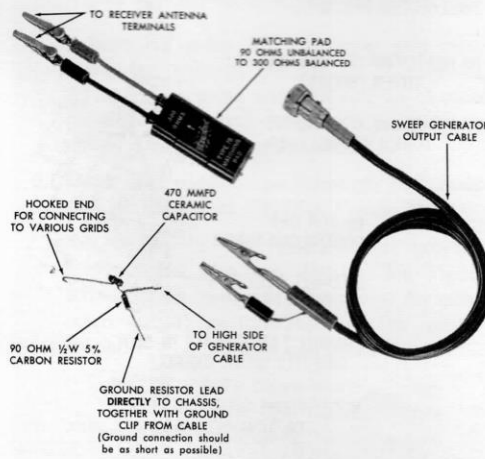
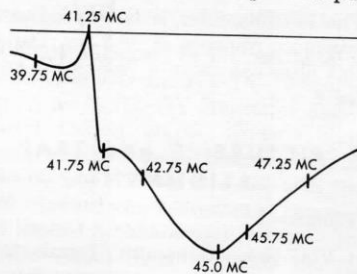
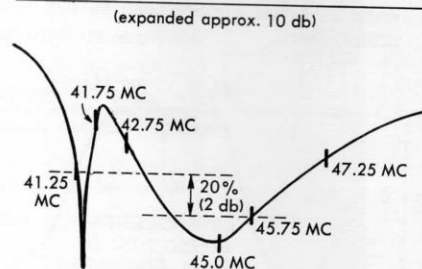

Figure 6—Typical IF-RF Alignment Fixture.
Figure 12—Typical Response Curve of Last IF Stage, Taken at Test Point C1
Figure 13—Typical Response Curve of Last IF Stage, Taken at Test Point C2.
This equipment must be capable of producing sweep and marker frequencies through the IF and RF ranges. The sweep width must be variable up to at least 8 megacycles for satisfactory display of the various response curves. Attenuation to approximately .1 volt output is also desirable to prevent overload and possible distortion of the patterns during alignment. The output impedance should be 300 ohms, or properly *matched* to 300 ohms. A typical matching pad and "fixture" is shown in Figure 6.
3. Connect Sweep and Marker Generator output cable(s) to antenna terminals. Use matching pad similar to that shown in Figure 6 if matching device is not provided.
5. Adjust RF plate and converter grid trimmers for pattern similar to Figure 13. Spread or squeeze antenna coil on channel strip for maximum amplitude of response curve. Check marker locations.
3. Couple the Sweep and Marker signals (using the resistor and capacitor assembly shown in Figure 6), to test point G (input to 3rd IF stage) Adjust Sweep Generator for approximately 6 megacycle sweep (center frequency approximately 43.5 mc) Detector output should not exceed 6 volts peak-to-peak. Sweep pattern should approach that shown in Figure 12.
7. Connect oscilloscope to test point C2. Adjust primary and secondary slugs of T4 to obtain response similar to Figure 12. Note comparison of response at C2 with response obtained at C1. The response at C2 will only be approximately $\frac{1}{3}$ as great as the response at C1 (10 db less than C1 response at 45.75 mc) Increase oscilloscope gain controls accordingly to obtain response as shown in Figure 13. The 41.25 mc marker should be approximately 20% (2db) below 45.75 mc at C2. Recheck T4 adjustment if necessary